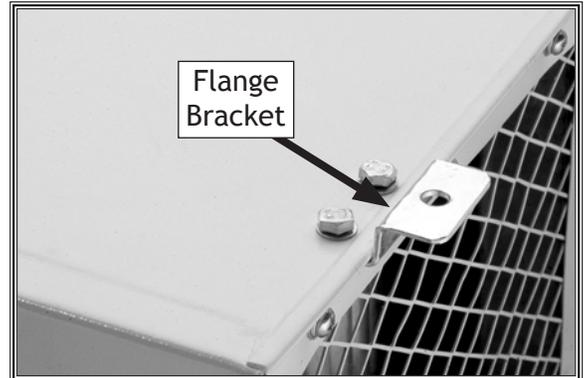

Figure 17. Flange bracket installed.
4. Attach (4) flange brackets to air filter with (8) M6-1 x 10 hex bolts and 6mm flat washers (see Figure 17).